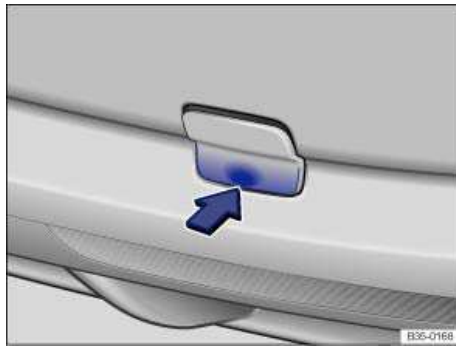

Fig. 214 In the right rear bumper: Removing the cover cap.
The mount for the threaded towing eye is located in the right rear bumper behind a cover cap ⇒ fig. 214.
- ☐ Push on the bottom of the cover ⇒ fig. 214 (arrow) so that it pops out.